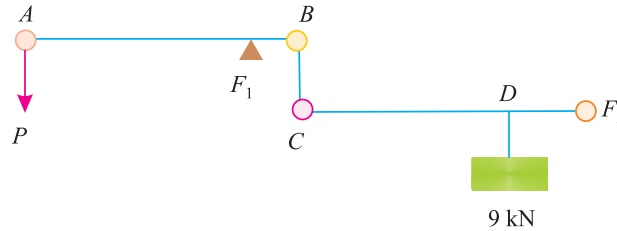

Fig. 3.22.
4. A compound lever shown in Fig. 3.22 is required to lift a load of 9 kN with an effort  $P$ .